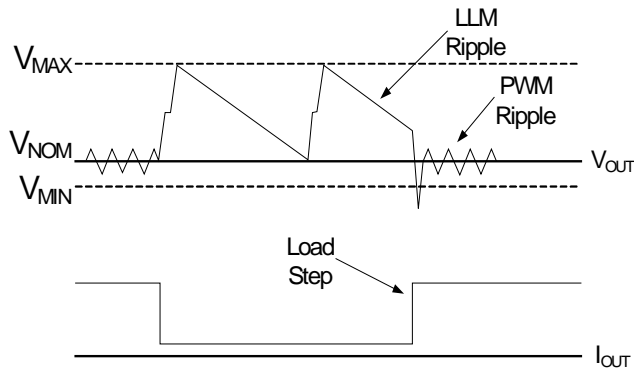
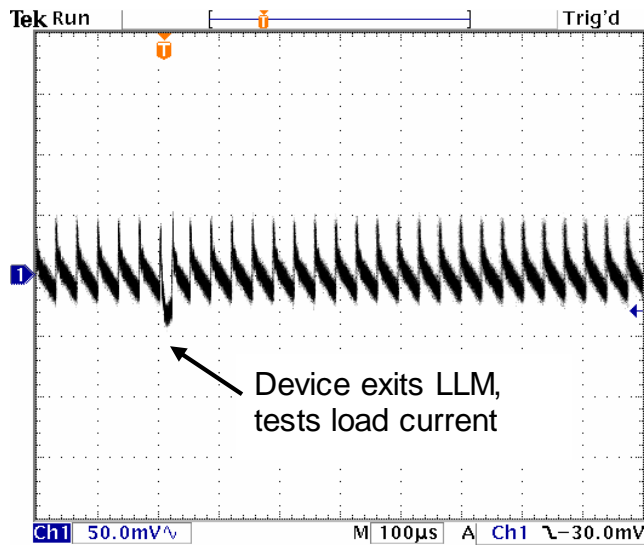

Figure 6:  $V_{OUT}$  Behavior in LLM Operation
Figure 7:  $V_{OUT}$  Droop during Periodic LLM Exit
The EP53A7xQI uses a proprietary light load mode to provide high efficiency in the low load operating condition. When the LLM pin is high, the device is in automatic LLM/PWM mode. When the LLM pin is low, the device is in PWM mode. In automatic LLM/PWM mode, when a light load condition is detected, the device will (1) step  $V_{\text{OUT}}$  up by approximately 1.5% above the nominal operating output voltage setting,  $V_{\text{NOM}}$ , and then (2) shut down unnecessary circuitry, and (3) monitor  $V_{\text{OUT}}$ . When  $V_{\text{OUT}}$  falls below  $V_{\text{NOM}}$ , the device will repeat (1), (2), and (3). The voltage step up, or pre-positioning, improves transient droop when a load transient causes a transition from LLM mode to PWM mode. If a load transient occurs, causing  $V_{\text{OUT}}$  to fall below the threshold  $V_{\text{MIN}}$ , the device will exit LLM operation and begin normal PWM operation. Figure 6 demonstrates  $V_{\text{OUT}}$  behavior during transition into and out of LLM operation.
Many multi-mode DCDC converters suffer from a condition that occurs when the load current increases only slowly so that there is no load transient driving  $V_{OUT}$  below the  $V_{MIN}$  threshold (shown in Figure 6). In this condition, the device would never exit LLM operation. This could adversely affect efficiency and cause unwanted ripple. To prevent this from occurring, the EP53A7xQI periodically exits LLM mode into PWM mode and measures the load current. If the load current is above the LLM threshold current, the device will remain in PWM mode. If the load current is below the LLM threshold, the device will re-enter LLM operation. There will be a small droop in  $V_{OUT}$  at the point where the device exits and re-enters LLM, as shown in Figure 7.